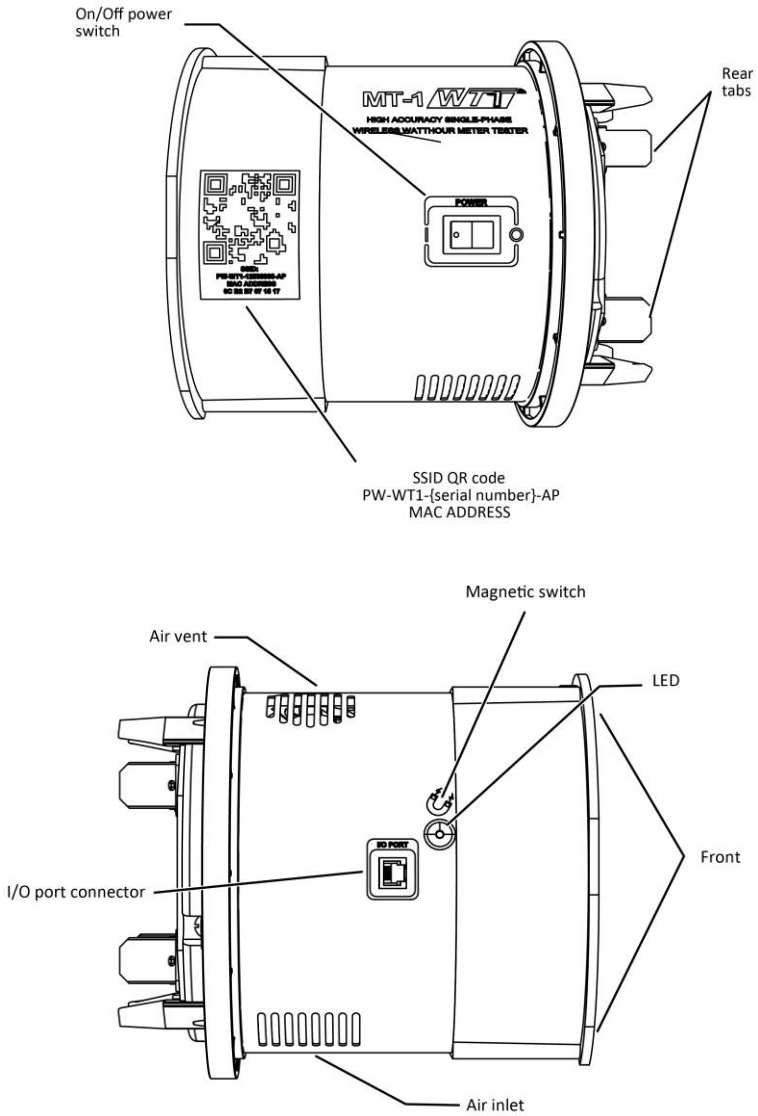

Fig. 2.2 – Side View of the Socket
**Manual Test** is when the operator counts the disk revolutions manually. The test is started and stopped manually by applying a magnet to the side of the socket (see Figure 2.2). Operators can set their own parameters for conducting a test, such as the number of revolutions and the load to be applied. The load can be switched dynamically during the test.